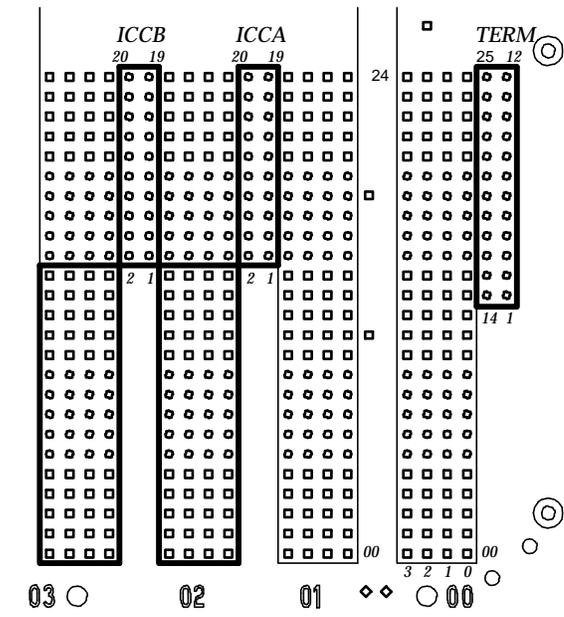

FIGURE 3-27. ICC Pin Blocks on J58890N Cabinet
2. Connect the ICC cables as shown in Table 3-E and Figures 3-27 and 3-28.